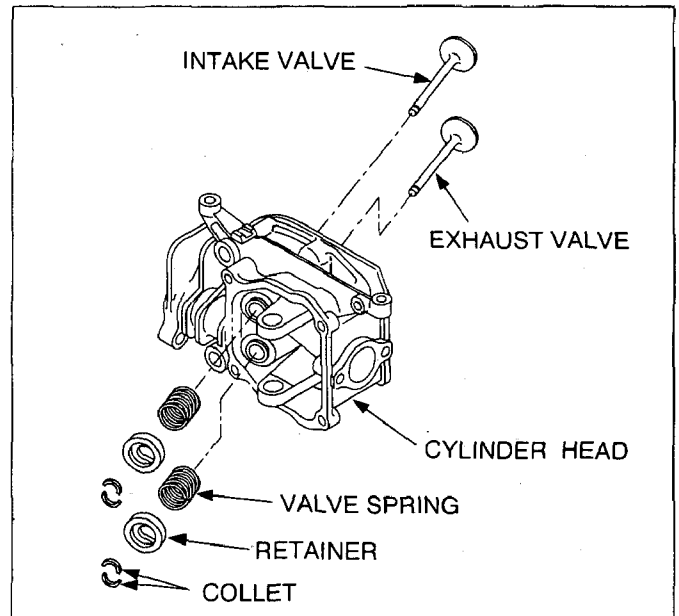

Fig. 5-35
(1) Clean carbon and gum deposits from the valves, seats, ports and guides. Inspect the valves, valve seats and valve guides.
(2) Replace valves that are badly burned, pitted or warped.
(3) When installing the valves in the cylinder head, oil the valve stems and insert them into the valve guide. Then place the cylinder head on a flat table, install the washer, valve spring and spring retainer. (See Fig. 5-35.)
(4) Valve guides should be replaced when the valve stem clearance exceeds specifications (See "SERVICE DATA" page 57)